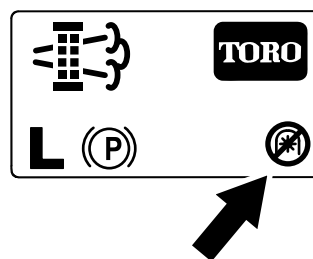

Figure 54
**Note:** The Home screen displays the PTO disabled icon (Figure 54).
**Note:** The Home screen displays the PTO disabled icon; refer to Figure 54 in Parked Regeneration Messages \(page 46\).